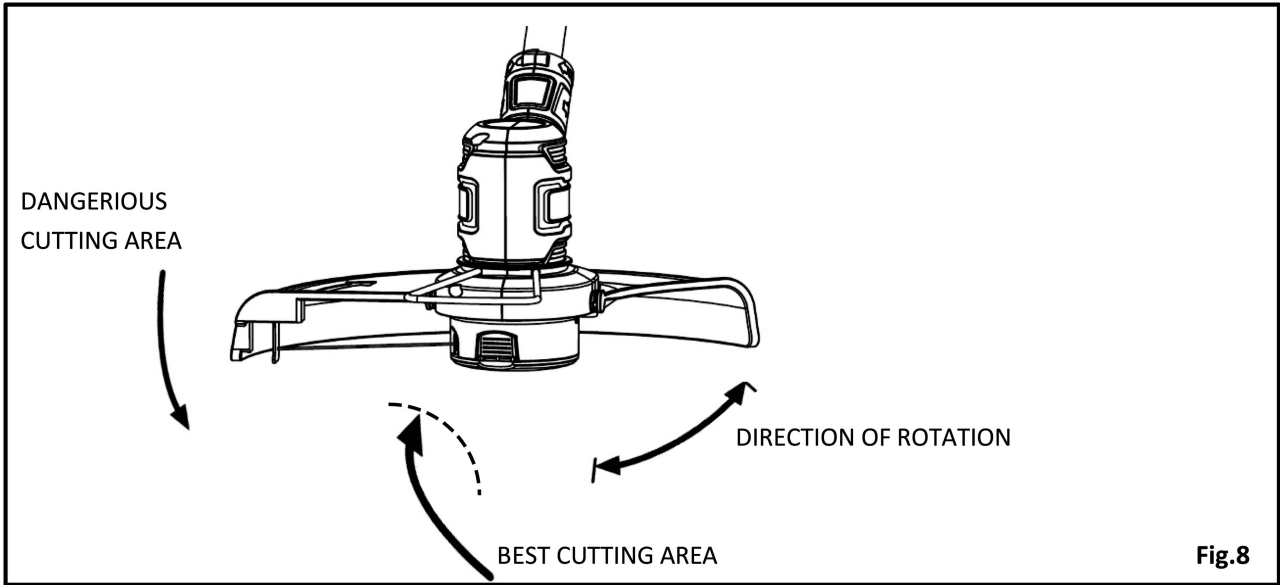

Fig.8
CUTTING TIPS (See Fig.8)
- The string trimmer cuts when passing the unit from left to right. This will avoid throwing debris at the operator. Avoid cutting in the dangerous area shown in figure 8.